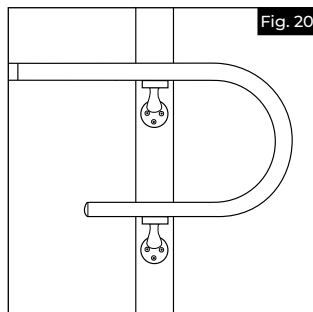

Fig. 20
- c. Attach Handrail loop to the mounting surface using 2 Handrail brackets (Fig. 20) following the instructions in this guide.